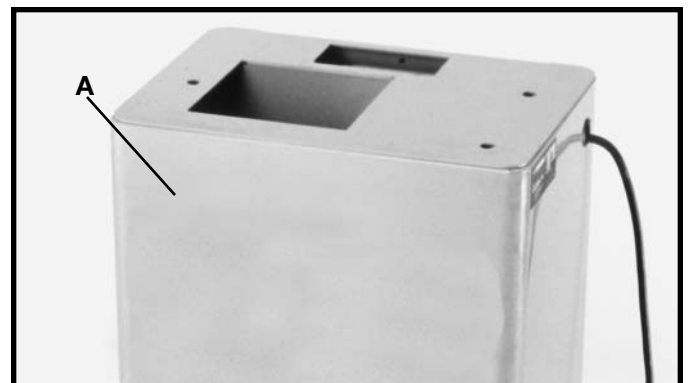

Fig. 6
Your Jointer stand (A) Fig. 6, is shipped with the motor and switch completely wired, and the motor mounted.